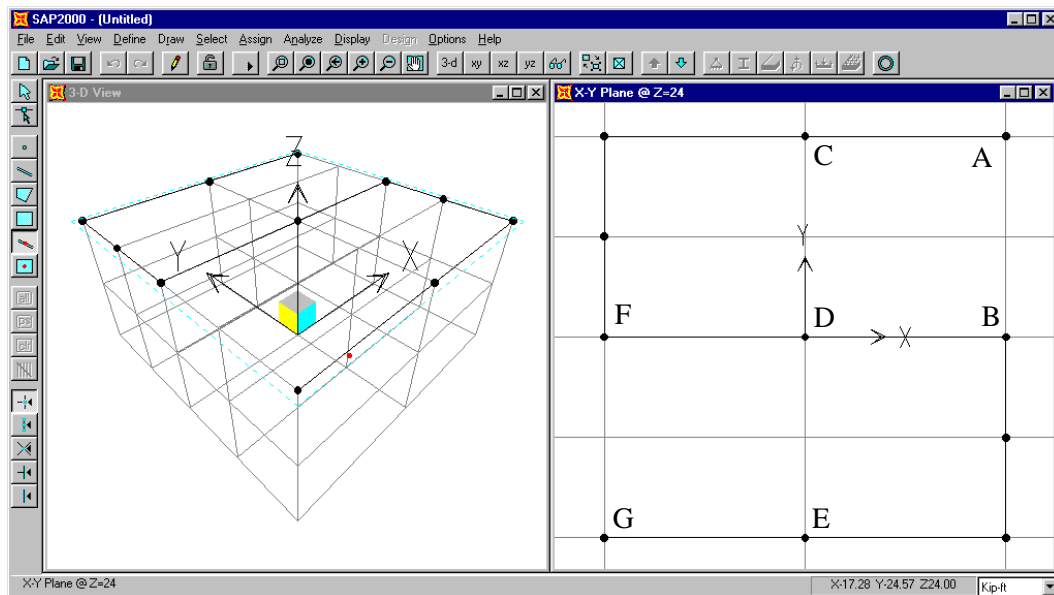
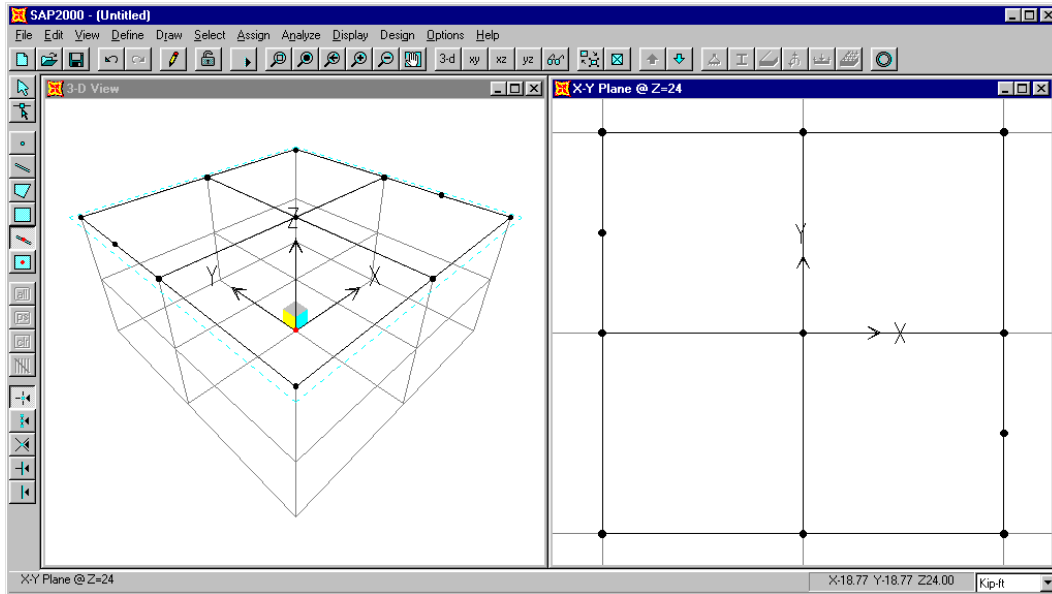

Figure C-10: Drawing Remaining Roof Level Beams
Figure C-11: Model After All Roof Level Beams Have Been Drawn
9. Make sure that the **Snap to Joints and Grid Points** button  on the side tool bar is depressed. Place the mouse pointer on the joint labeled “A” in Figure C-10 and click on the left mouse button. Note that when the mouse pointer is near the joint, it snaps to the joint, and a text box that says “Grid Intersection” appears. This is the effect of the **Snap to Joints and Grid Points** feature.
10. Place the mouse pointer near the joint labeled “B” in Figure C-10 and Click on the left mouse button to draw the roof beam element.
12. Place the mouse pointer on the joint labeled "C" in Figure C-10 and click on the left mouse button. Click in sequence on joints "D" and "E" and then press the Enter key to draw the next two roof beams.
13. We will now edit the grid lines so that we can use the **Quick Draw Frame Element** tool to enter the last roof beam that will span from point "F" to point "G" in Figure C-10.
17. Click on the grid line between points "F" and "G" in Figure C-10 to enter the last roof beam. The model now appears as shown in Figure C-11.